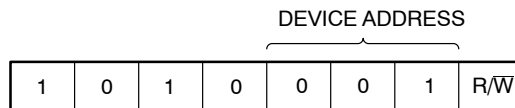

Figure 4. Slave Address Bits
The Master initiates data transfer by creating a START condition on the bus. The Master then broadcasts an 8-bit serial Slave address. The first 4 bits of the Slave address are set to 1010, for normal Read/Write operations (Figure 4). The next 3 bits are set to 0 0 1. The last bit, $R/\overline{W}$, specifies whether a Read (1) or Write (0) operation is to be performed.